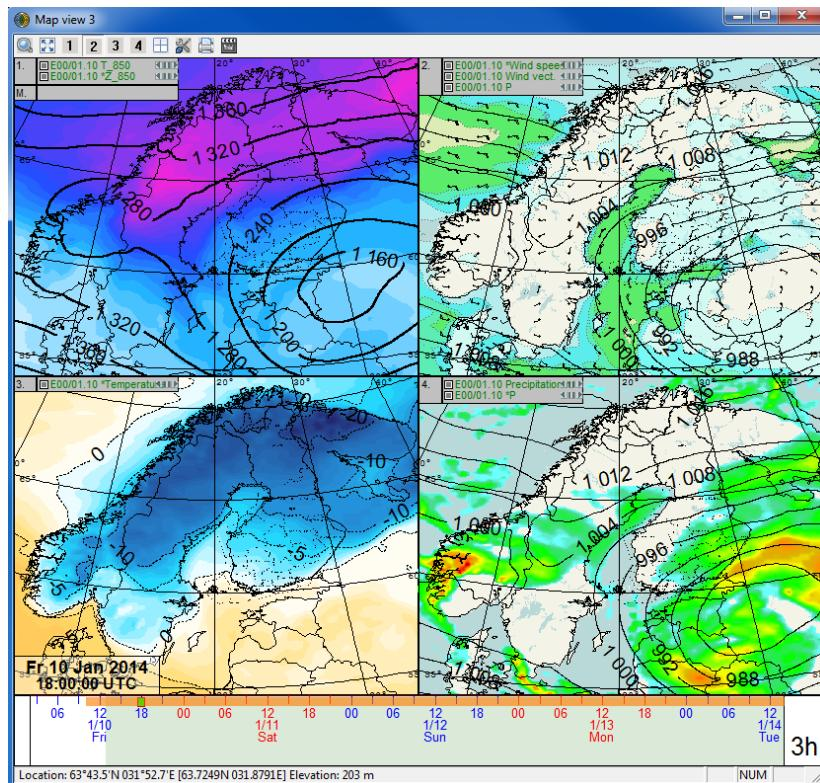

Figure 2.9 Grid in same time mode. Four different map rows displayed at the same time.
- *Same time*: all maps of the grid are showing the same time step. In the example in Figure 2.9 all maps are showing the same time step, Friday 10 Jan 18 UTC, but different map rows.